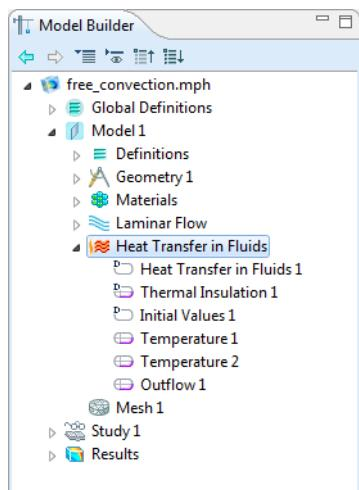

Figure 7-1: An example of the Model Builder default nodes.
After clicking the **Finish** button () in the **Model Wizard**, the **Model Builder** window displays a model tree with a set of default nodes—**Definitions**, **Geometry**, **Materials**, **Mesh**, and nodes based on the physics interfaces selected (see Figure 7-1). The **Model** nodes and branches form the sequence of operations that define the model.
- **Geometry** (A): Contains the sequence of geometric objects and operations (or imported CAD data) that defines the model geometry. You can also draw your own geometry in the **Graphics** window.
- **Physics** (): Any added physics or mathematical interface displays as a node under **Model** (**Heat Transfer** in Figure 7-1 for example).